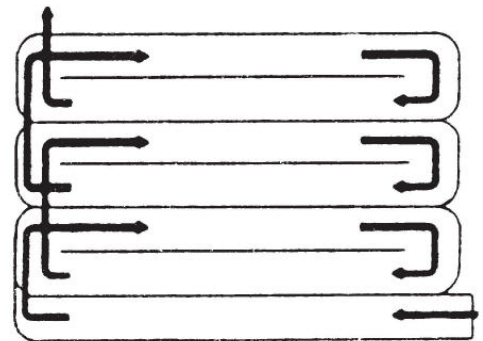

Figure 16
- In compacted soil or sod, or in food plot and sod busting applications, several passes may be necessary to till to a depth of seven (7) inches. For the first pass, just scratch the surface. The depth for each successive pass needs to be determined by individual site and soil conditions. If the machine stalls repeatedly, you should till slower or not as deep.
- Where possible, we recommend that you till in a pattern similar to that shown in Figure 16.